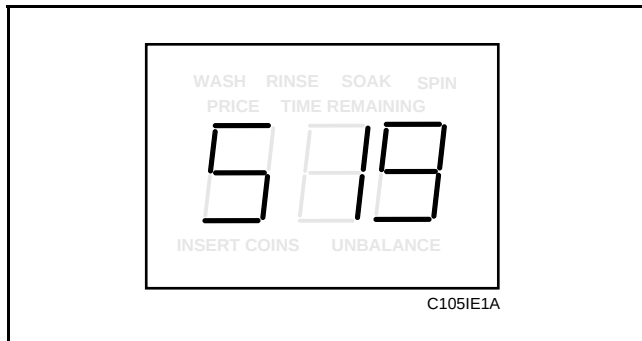

Figure 31
2. While pressing and holding the PERM PRESS keypad with one hand, press the COLD keypad with the other hand. Programmable option number one, “Slg”, will appear in the VFD. See **Figure 31**.